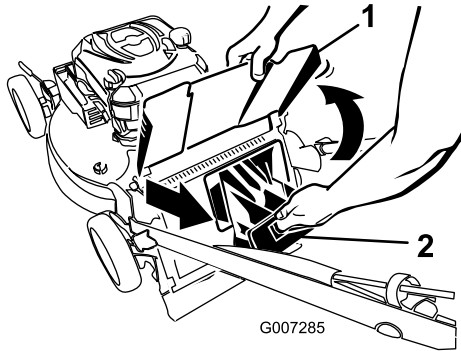

Figure 38
1. Raise and hold up the discharge deflector (Figure 38).
2. Pull out the rear discharge plug (Figure 38).